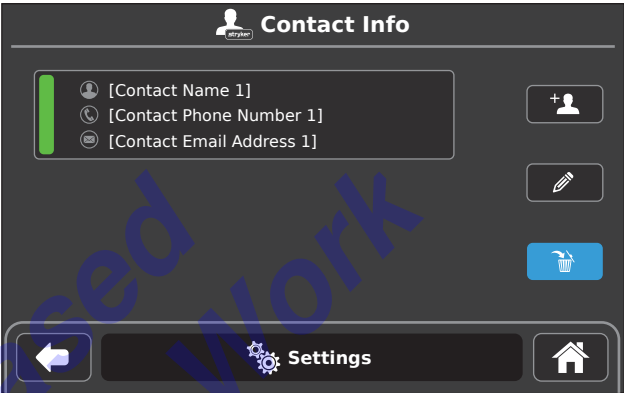

Figure 38 – Delete CONTACT INFO Information
3. From the CONTACT INFO screen, touch and select the desired contact information to delete (Figure 38).